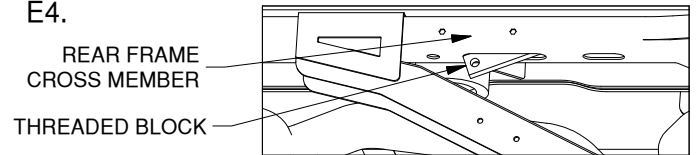
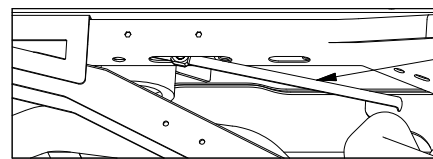

Figure E2
Figure E3
2. **Install the bolt guides.** Locate the rear frame cross member. First, install the threaded block by passing it through the slot in the frame cross member, as shown in Figure E2. The side of the threaded block which has the chamfered holes needs be down. Move the threaded block to the location shown in Figure E5. Second, with the welded nut guide on edge and the flanges facing the cab, install the guide by passing it through the slot, as shown in Figure E3. After the nut is in the tube turn the flanges so they are facing down. Pass the nut guide into the slot until the end of the guide is visible in the hole in the cross member on the driver side of the frame. Pass the end of the guide through the hole, as shown in Figure E4.